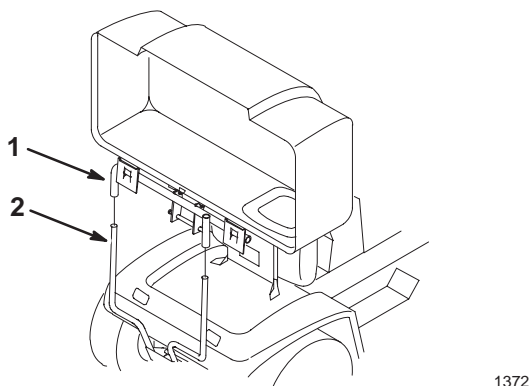

Figure 26
4. With the lid in the open position carefully lift the bagger top and slide it onto the quick attach bracket (Fig. 26).